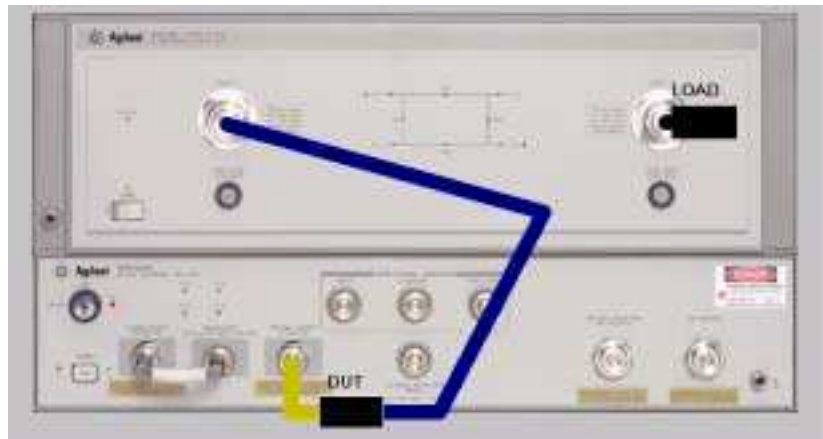

Figure 4-10. Measurement Connections for a Device Under Test after an O/E Bandwidth Response and Isolation Calibration
- Measurement Connections in Figure 4-10 on page 4-51 are for a device under test, after performing an O/E bandwidth response and isolation calibration.